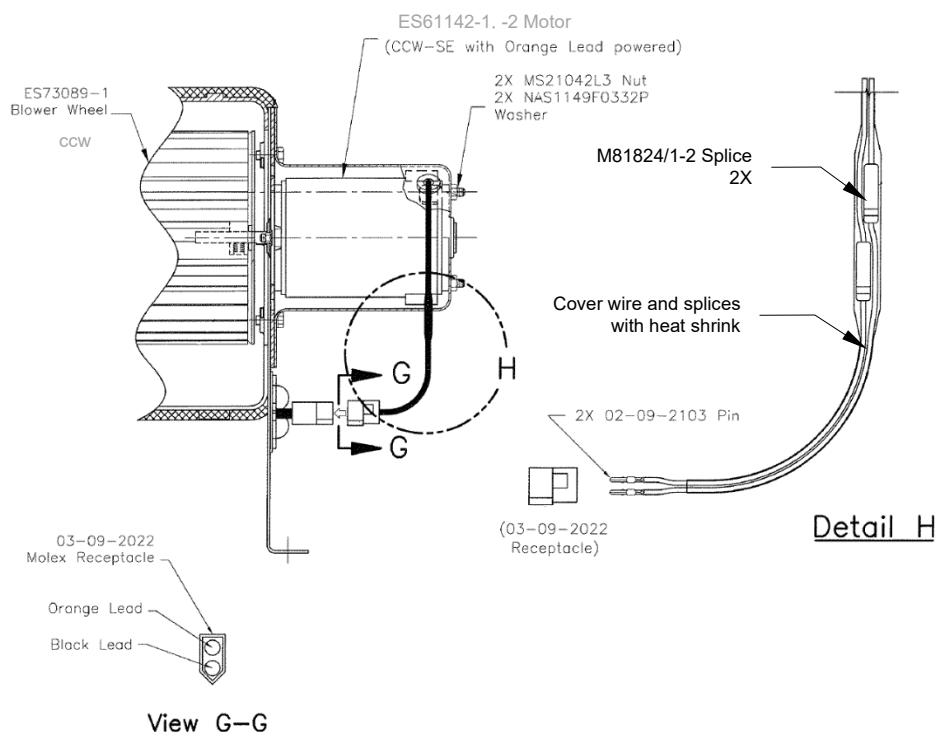

Figure 7-2 – Aft Evaporator Blower Motor, Pre-2015 kits with Molex connectors
(Figure 7-2 below)
- a. Install splices to retain Molex receptacle wiring and replacement motor wires. Cover with heat shrink. Ensure wiring polarity is observed as per Figure 7-2.